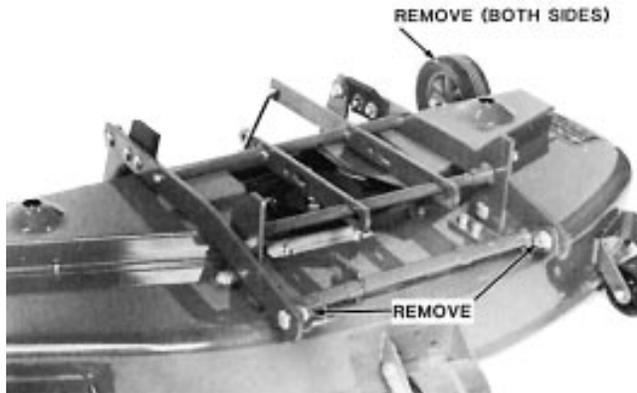

Figure 4
1. Remove the rear gage wheels and store the wheels and all hardware for future use (Fig. 4).
2. Remove the front hitch shaft, store the shaft with the gage wheels, and save the hardware for use when attaching the mower to the carrier frame (Fig. 4).